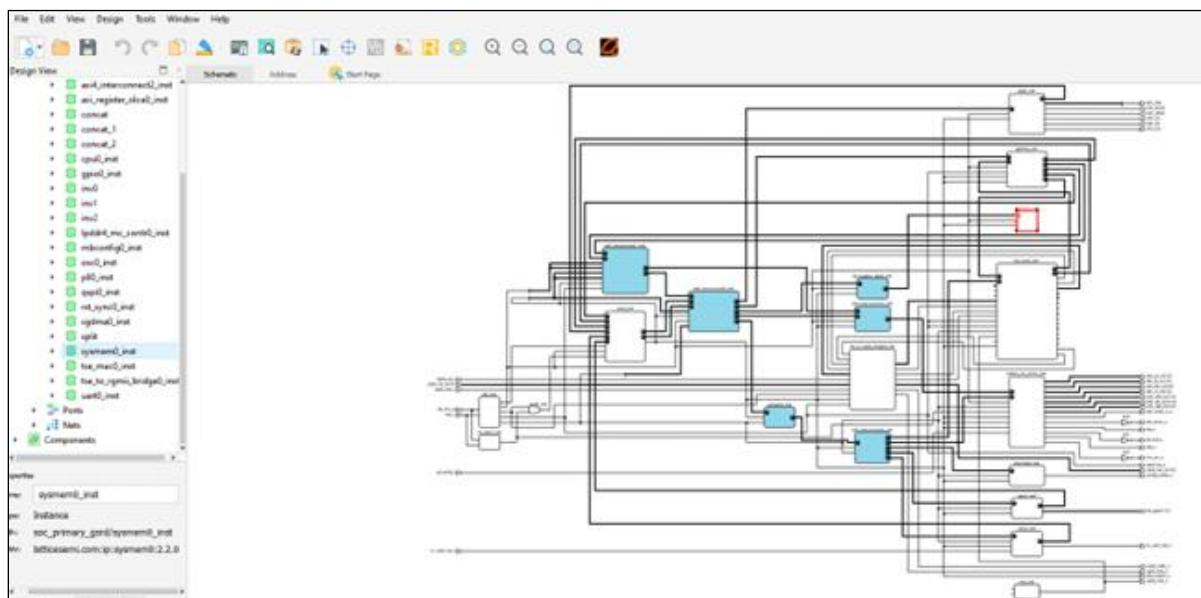

Figure 8.40. System Memory Highlighted
4. Select the **System Memory** Instance from the Design View in the left column and it highlights the *sysmem0_inst* as shown in Figure 8.40.